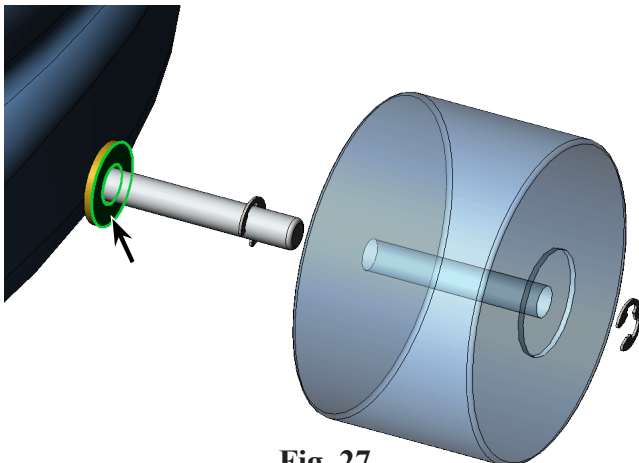

Fig. 27
Step 8. Click **Distance**  in Mate pop-up, **Fig. 26**. Set distance to 17 and press ENTER. The Washer should set next to the Body, **Fig. 27**. If positioned in opposite direction, click **Flip Dimension**  in the Mate pop-up, **Fig. 26**. Click Add/Finish Mate  to add Distance mate.
Step 1. Click **side face of Washer2**, **Fig. 27**.